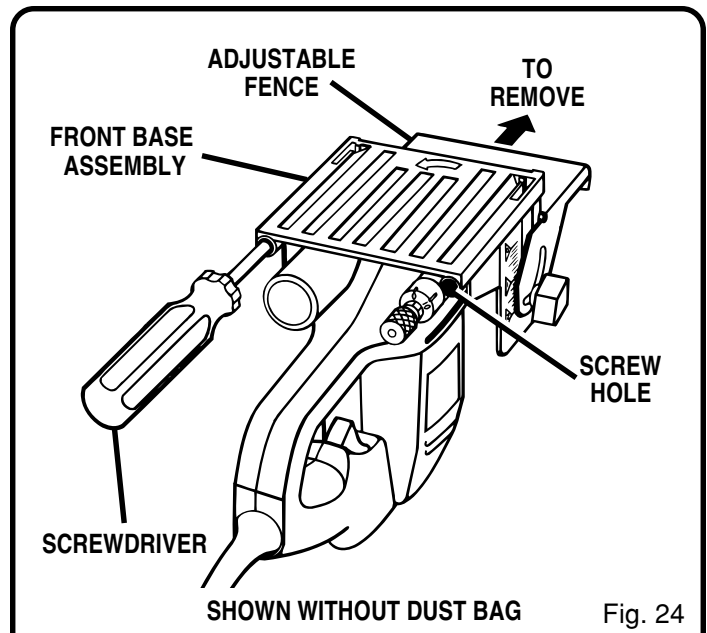

Fig. 24
3. Place your plate joiner upside down on a workbench as shown in figure 24.
5. Pull adjustable fence in the direction shown by the arrow in figure 24 and remove front base assembly.
**NOTE:** Saw teeth point toward the right of the saw when held in normal operating position. The direction of rotation is marked on the saw blade. An arrow on the bottom of the front base assembly also indicates direction of rotation. See Figure 24.